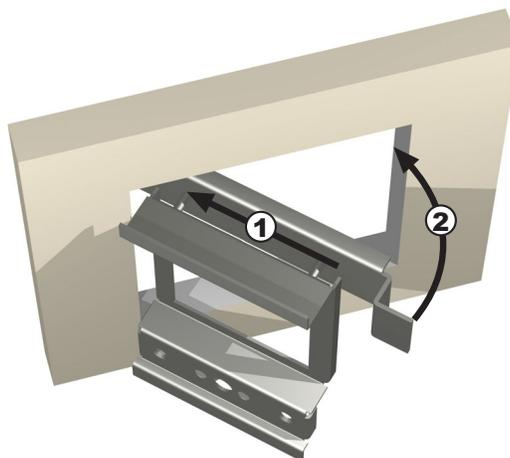

Figure 8 – Installing the MRC44 Keypad mounting bracket in the wall
- b. Run the supplied screws through the top (marked on the front of the bracket) of the mounting bracket into the back-bar as shown in **Figure 8**.